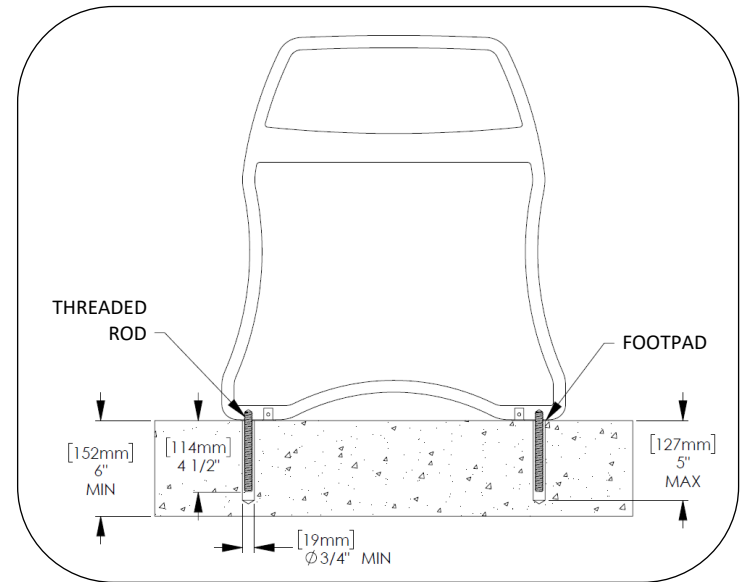

Fig. 4 – Embedded section detail for holes
5. Drill holes according to Fig. 4. Clear holes of debris.